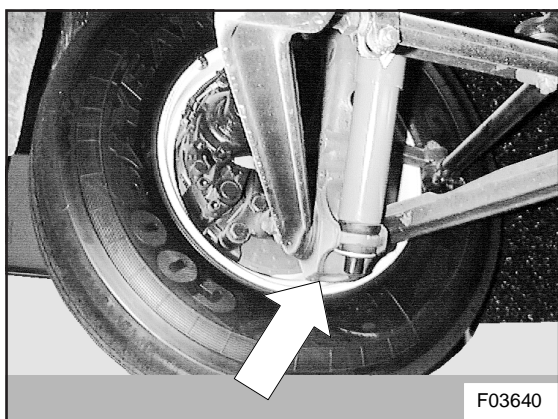

Figure 4: Front axle king-pin carrier jacking point
- Front axle king-pin carriers (see Figure 4) to fit turntable for wheel alignment purposes only.